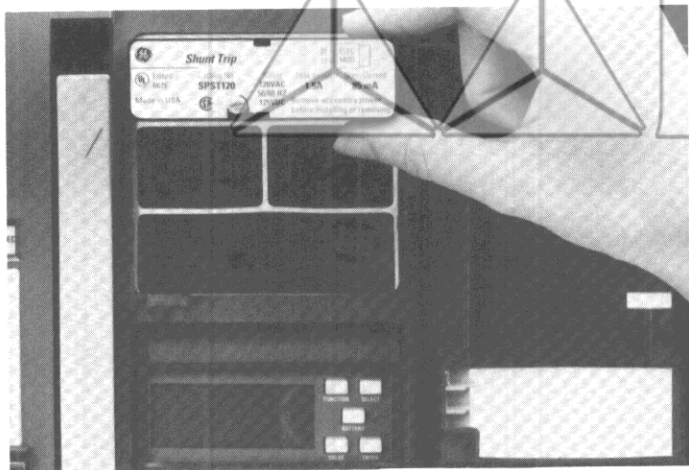

Figure 3. Inserting the Shunt Trip into the accessory compartment.
3. Insert the Shunt Trip module into the proper slot, as illustrated in Figure 3. The Shunt Trip module is keyed for the correct slot in the accessory compartment. If the module cannot be fully seated in the compartment, check that the compartment position is correct.